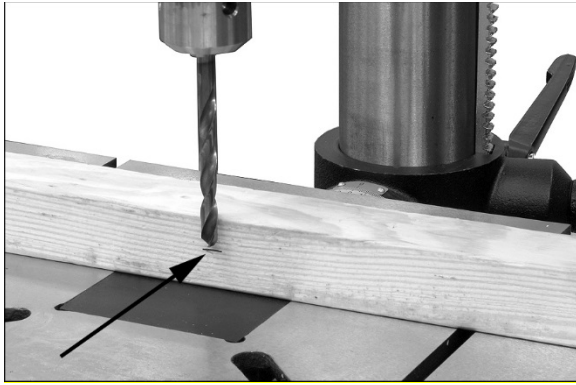

Figure 8-6: method #2
1. Mark the desired depth of cut on the side of the workpiece (Figure 8-6).
2. Loosen lock handle (F) and use turret handles (G) to lower the bit to the mark. Hold turret handle in position.
3. Rotate the scale ring (H) to the measurement that will allow the drill bit to raise and clear the workpiece.
4. Tighten the lock handle (F).
6. To release depth stop, loosen lock handle (F).